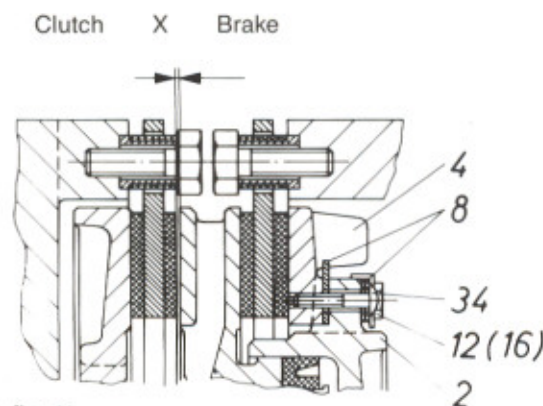

fig. 11
- Check the airgap "X" (fig. 11). The friction surfaces are worn when the values given in the table, section 4 are reached.
Before dismantling of friction discs (5, 6) ensure that the distance plates (8) are returned to their original position (see fig. 11).